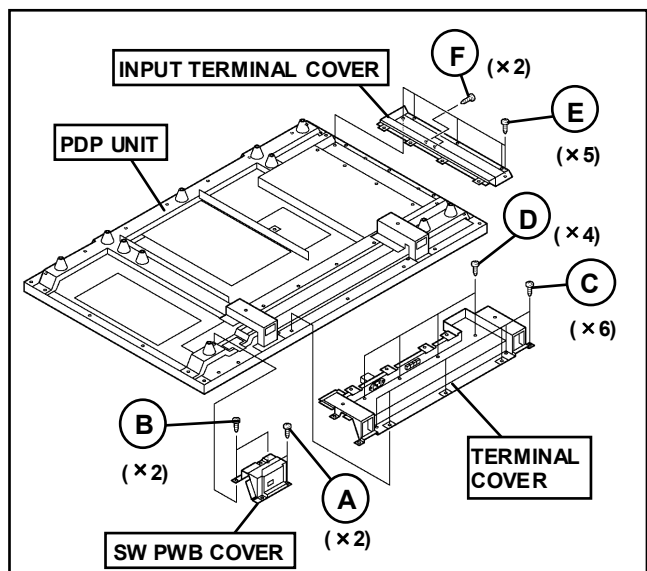

Fig.2
- 1. Remove the 2 screws marked **A** as shown in Fig.2.
- 2. Remove the 2 screws marked **B** as shown in Fig.2.
- 1. Remove the 6 screws marked **C** as shown in Fig.2.
- 2. Remove the 4 screws marked **D** as shown in Fig.2.
- 1. Remove the 5 screws marked **E** as shown in Fig.2.
- 2. Remove the 2 screws marked **F** as shown in Fig.2.